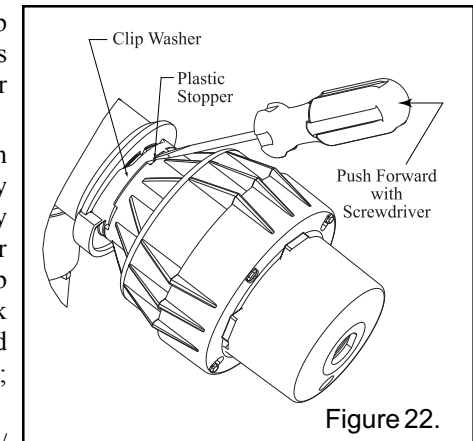

Figure 22.
5. With the end of a flat head screw driver, push the plastic stopper in the clip washer forward towards the front of the light, see Figure 22.
6. With the end of a flat head screw driver, push the plastic stopper in the clip washer forward towards the front of the light, see Figure 22.